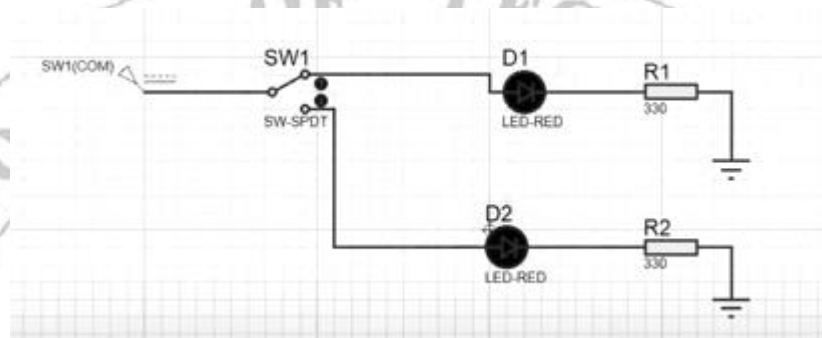

Fig 1.6: Half duplex
1. Connect the electrical circuit as shown in fig 1.6